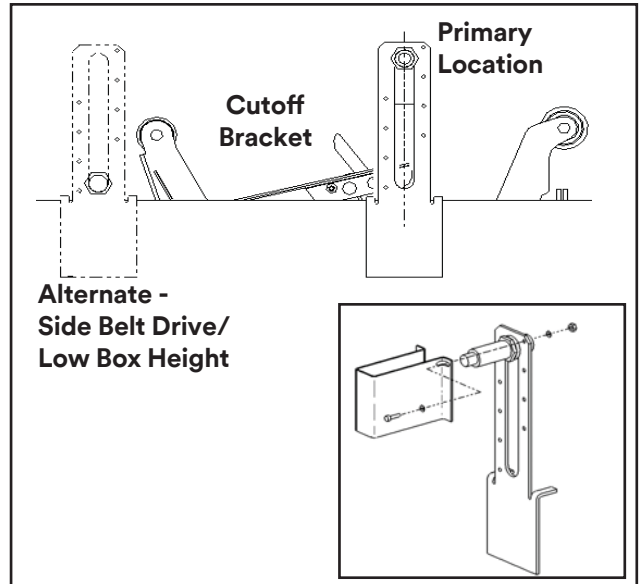

Figure 2-14
- 2) Determine the appropriate mounting location for your application. The box present sensor can be mounted at various locations from a point ahead of the applying roller to the end of the cutoff bracket. Whenever possible the sensor/reflector brackets should be positioned approximately ½" from the end of the lower taping head cutoff bracket. For applications with top taping only the position should be chosen using the upper taping head cutoff bracket. The sensor must also be positioned to detect the lowest height box without being blocked by taping head movement. Mounting location and adjustment will vary with each application (**See Figures 2-14**).